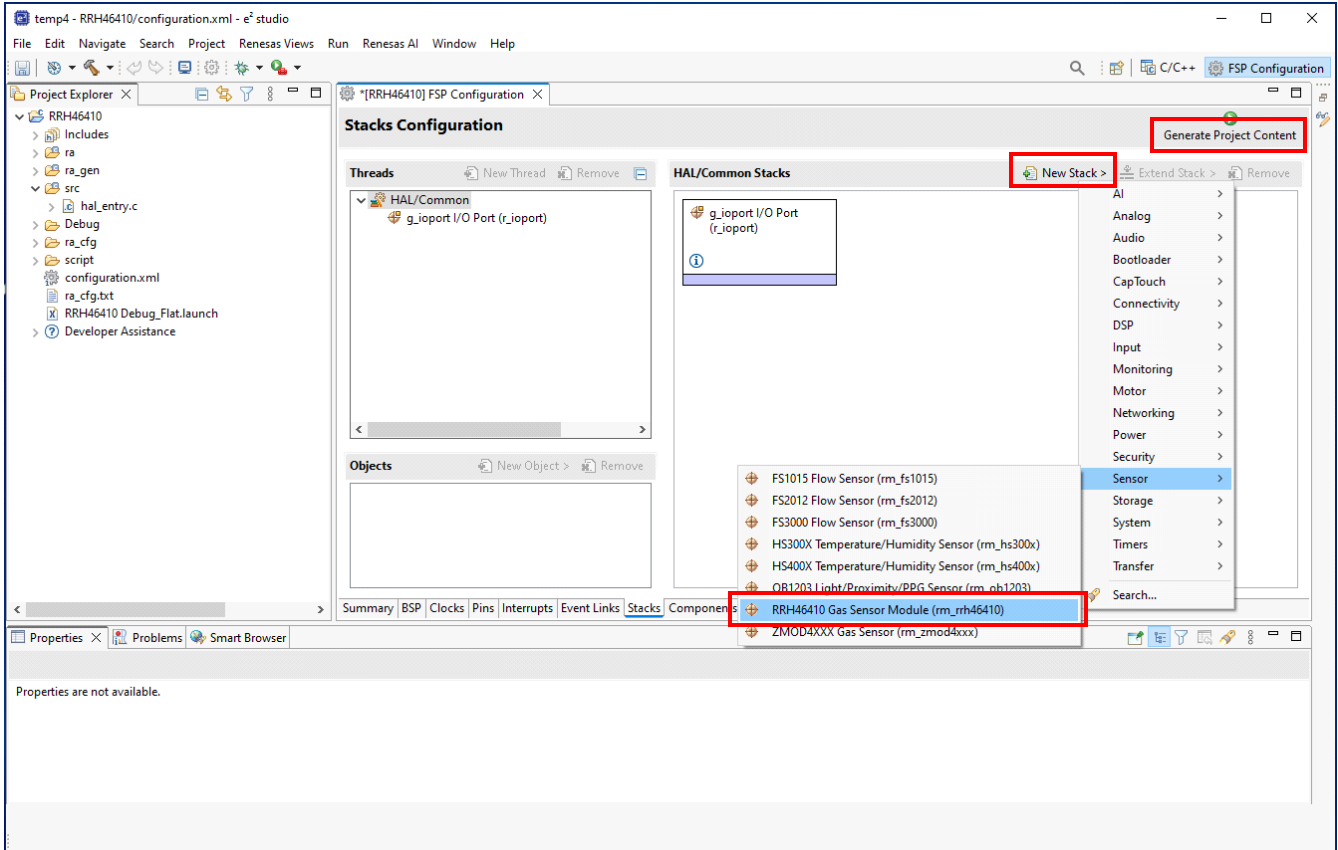

Figure 2. Stacks Configuration Window
3. Add the following stack element by clicking the *New Stack* button and editing the configuration values for desired operation (see Figure 2).